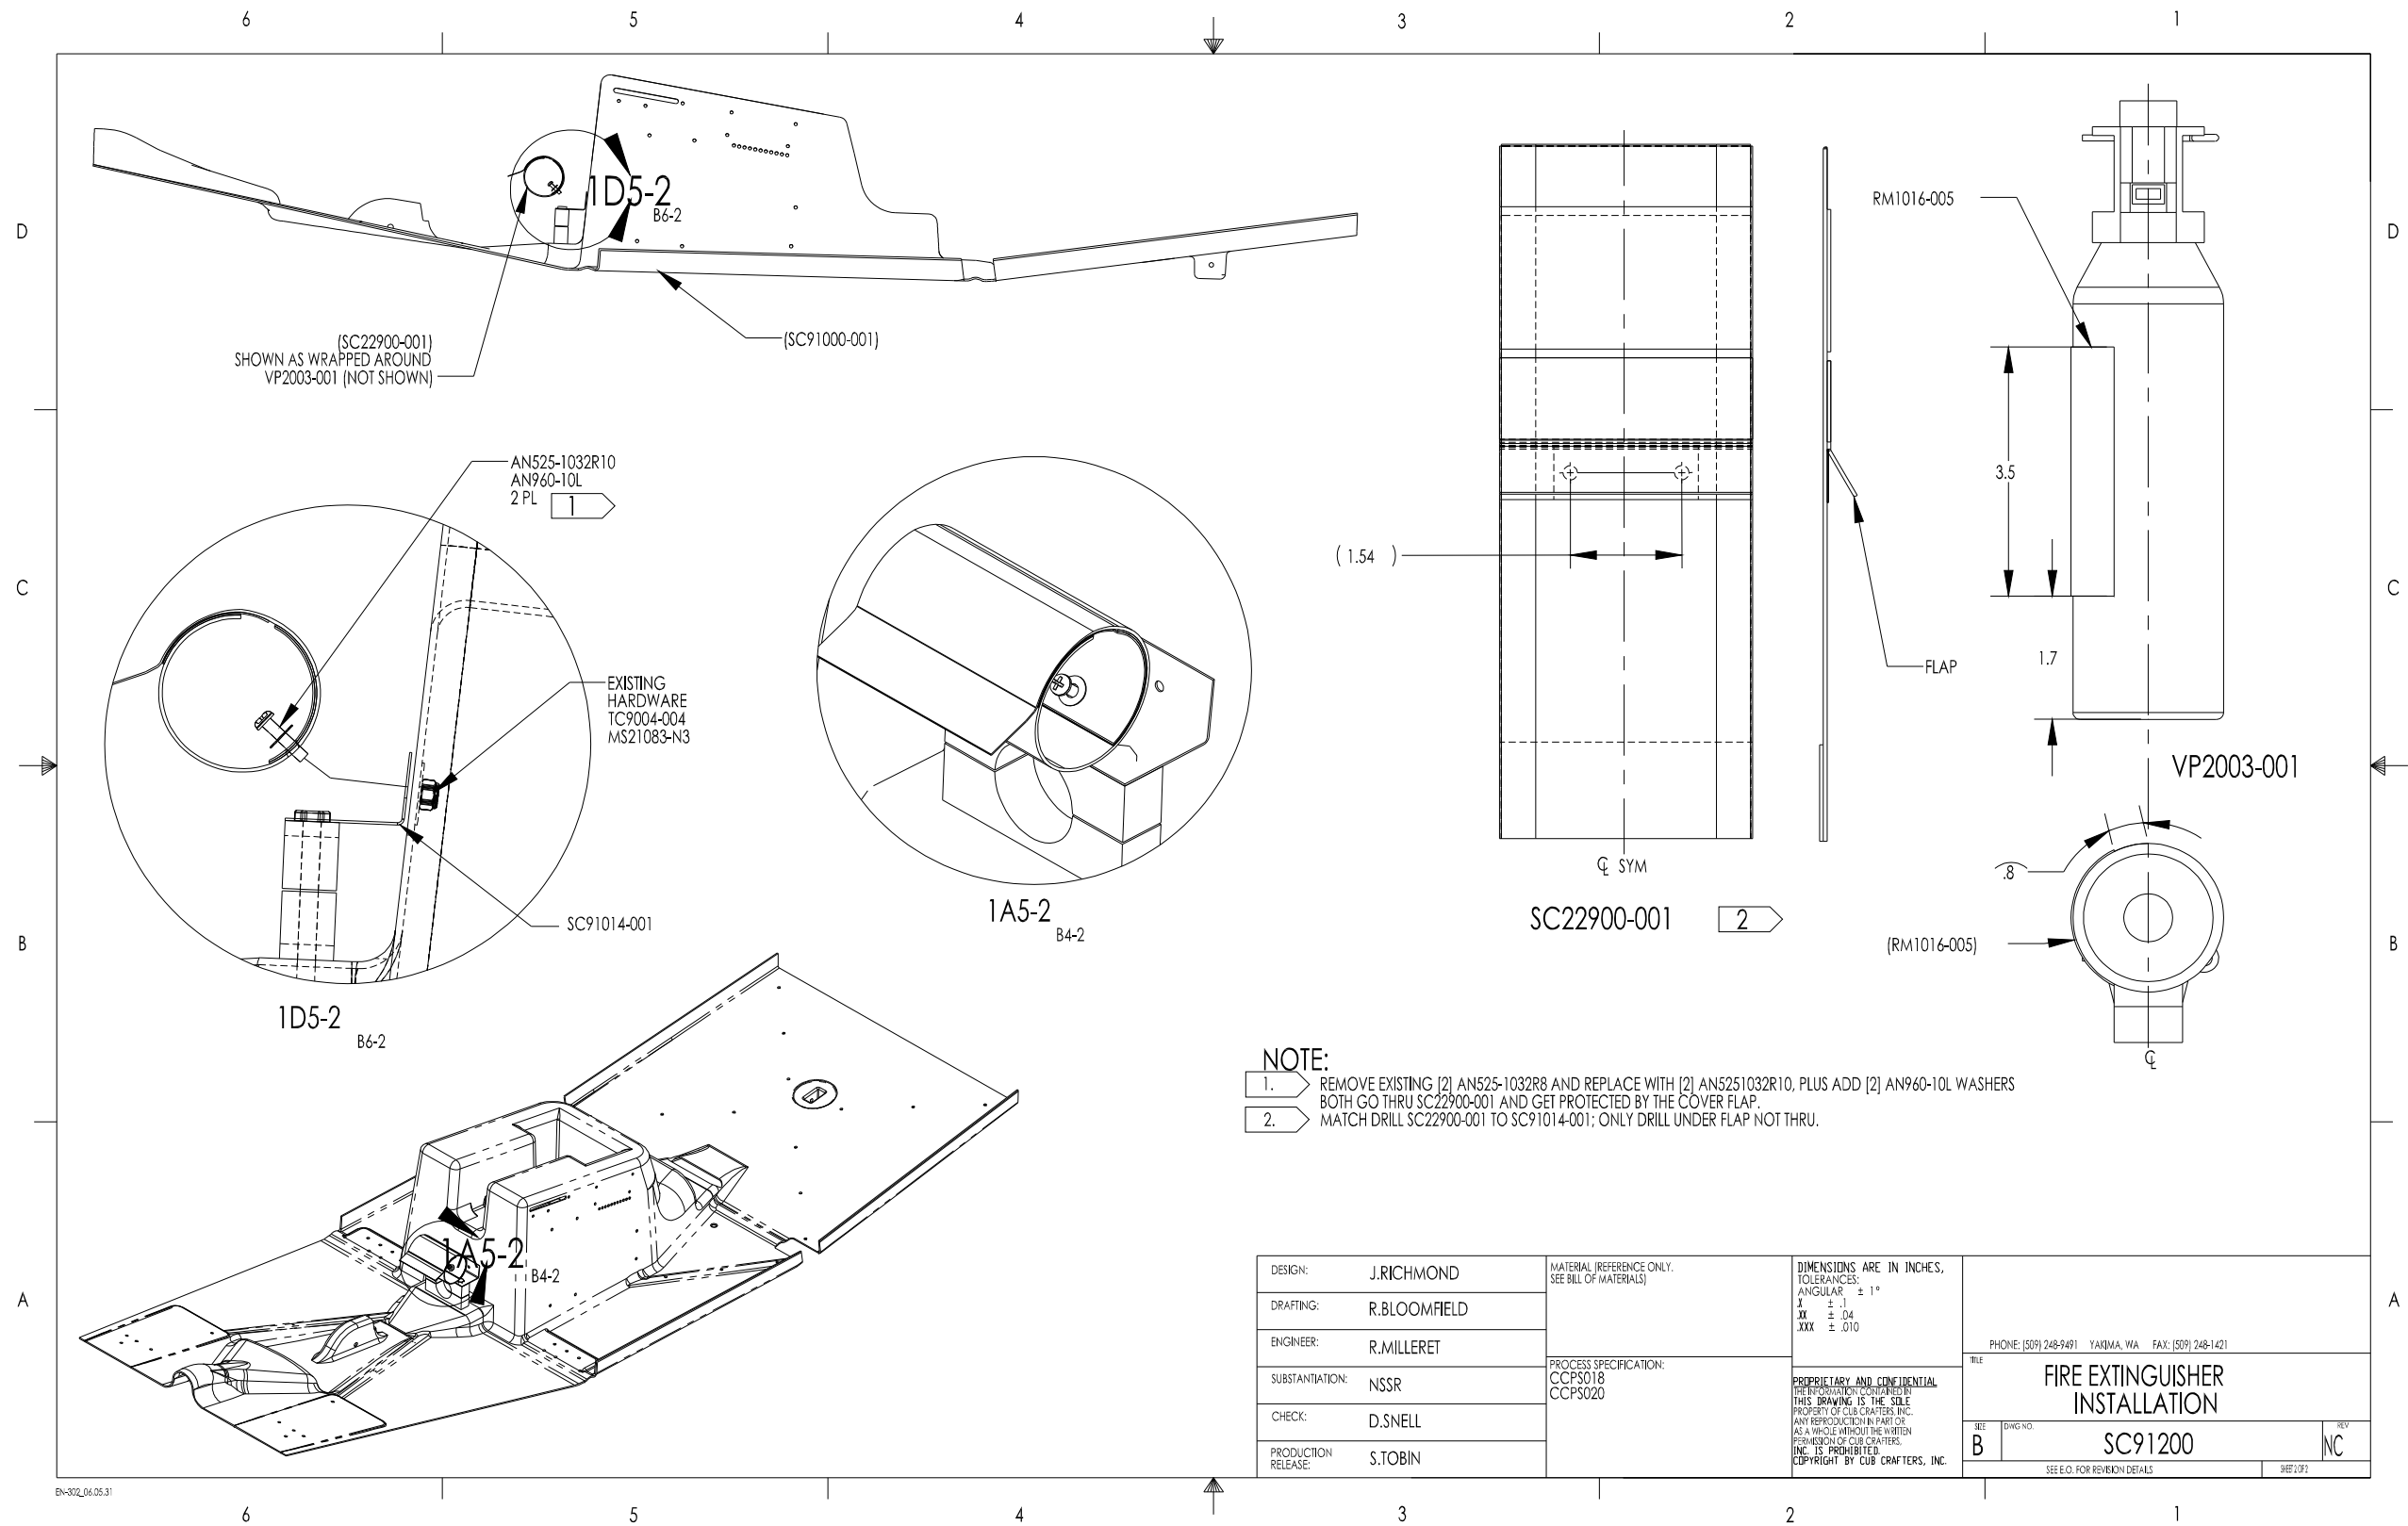

Figure 1 – Fire Extinguisher Installation
1. Remove the two AN525-1032R8 screws from the SC91014-001 Torque Tube Stiffener located on the forward side of the front seat pillar as shown in Figure 1.
3. Install the holder with two AN525-1032R10 screws and two AN960-10L washers, as shown in detail call-outs 1D5-2 and 1A5-2. Use the existing washers and nuts on the aft side of the seat pillar to secure the new screws (see Figure 1 zone B5). Tighten the nuts to 20 to 25 in·lbs of torque.